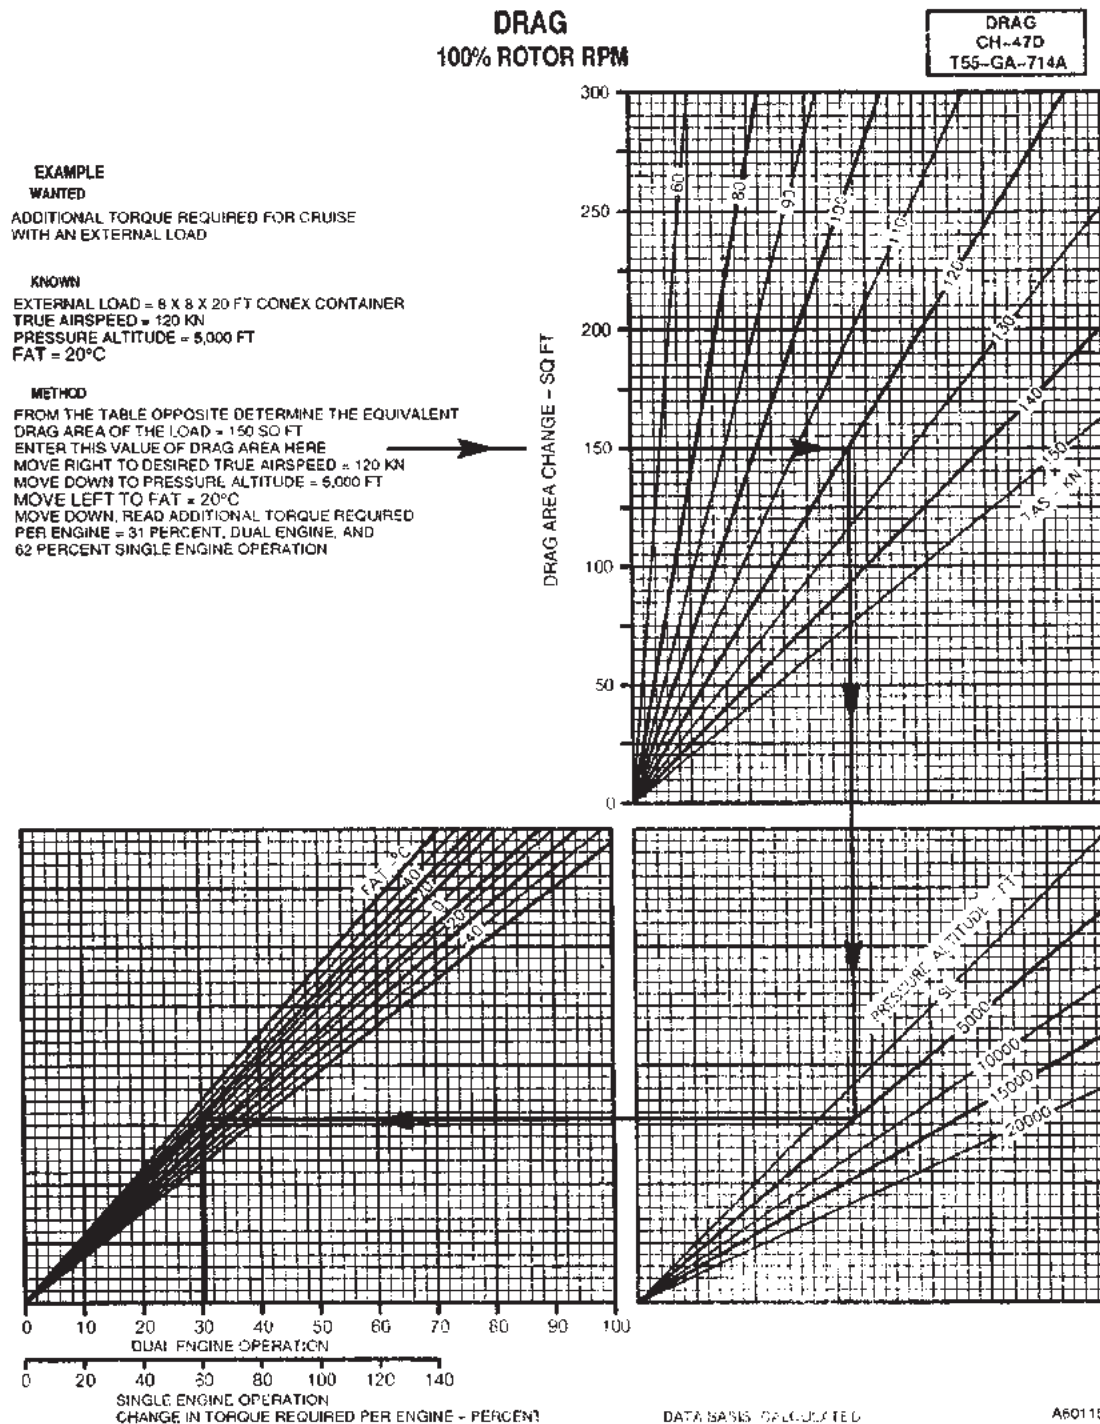

Figure 7A-8-1. Drag Chart
a. Climb and descent performance may be seen in figure 7A-9-1, which represents change in torque to climb or descend at selected GWs.
b. The climb performance charts, figure 7A-9-2, shows relationships between GW, initial and final altitude and temperatures, time to climb, and distance covered and fuel used while climbing. The chart is presented for climbing at **hotter** and **colder** temperatures, intermediate torque (30 minute operation).
a. To determine torque change for a specific rate of climb or rate of descent (fig. 7A-9-1), enter rate of climb or descent and move right to gross weight, move down and read change. This torque change must be added to the torque required for level flight for climb, or subtracted for descent, to obtain total climb or descent torque.
c. To use the climb performance charts (fig. 7A-9-2), enter at the top left at the known gross weight, move right to the initial press alt (pressure altitude), move down to the FAT at that altitude, and move left and record time, distance, and fuel. Subtract the time, distance, and fuel values of the initial altitude-temperature condition from those of the final altitude-temperature condition to find the time to climb, distance covered, and fuel used while climbing.
The climb and descent charts are based on 100% RRPM. The climb speed schedule shown in figure 7A-9-2 (see insert) is for optimum climb, that is, minimum power required and maximum power available (30 minutes). It is an average schedule for the GW range and atmospheric conditions for the CH-47D.